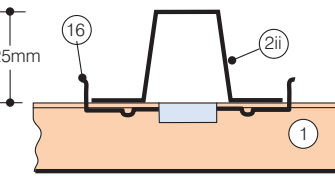

Fig.8 OMEGA carrier (2ii) in cross section.
Open joint widths between MODULAM profiles ref. M85H13 and M85H20 can be varied by clipping the profiles over a sliding clip plate (16) which is "end fed" onto a plain base (ie. non tongued) carrier (2ii) (Figs.8 & 9) and positioned according to requirements.